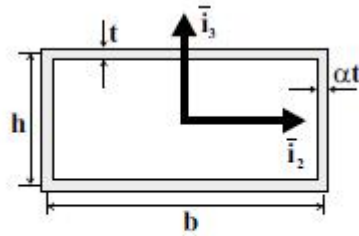

Fig. 8.42. Thin-walled beam with rectangular cross-section.
The thin-walled beam with a rectangular section depicted in fig. 8.42 is subjected to a vertical shear force V_3 . (1) Determine the centroidal bending stiffnesses of the section. (2) Find the shear flow distribution in the section. (3) Verify that all joint and edge equilibrium conditions, eq. (8.29), are satisfied. (4) Find the location and magnitude of the maximum shear flow in the section. Use the following data: $\alpha = 1.0$